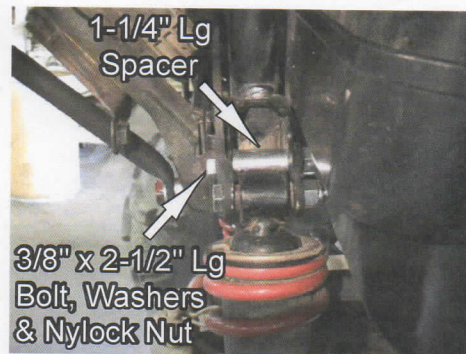

Fig.9
12. Now you will install the plates onto the factory frame. Do this by using the 3/8"-16 x 2-1/2" Lg Hex Head Bolt, Washers, 1-1/4" Lg Tube Spacer and Nylock Nut provided in your Kit (items: "G", "H" "I" & "M"). The Spacer goes inside the factory frame running the bolt thru it. Be sure to keep loose until the shock has been installed between the new Bracket plates. See Fig.9.